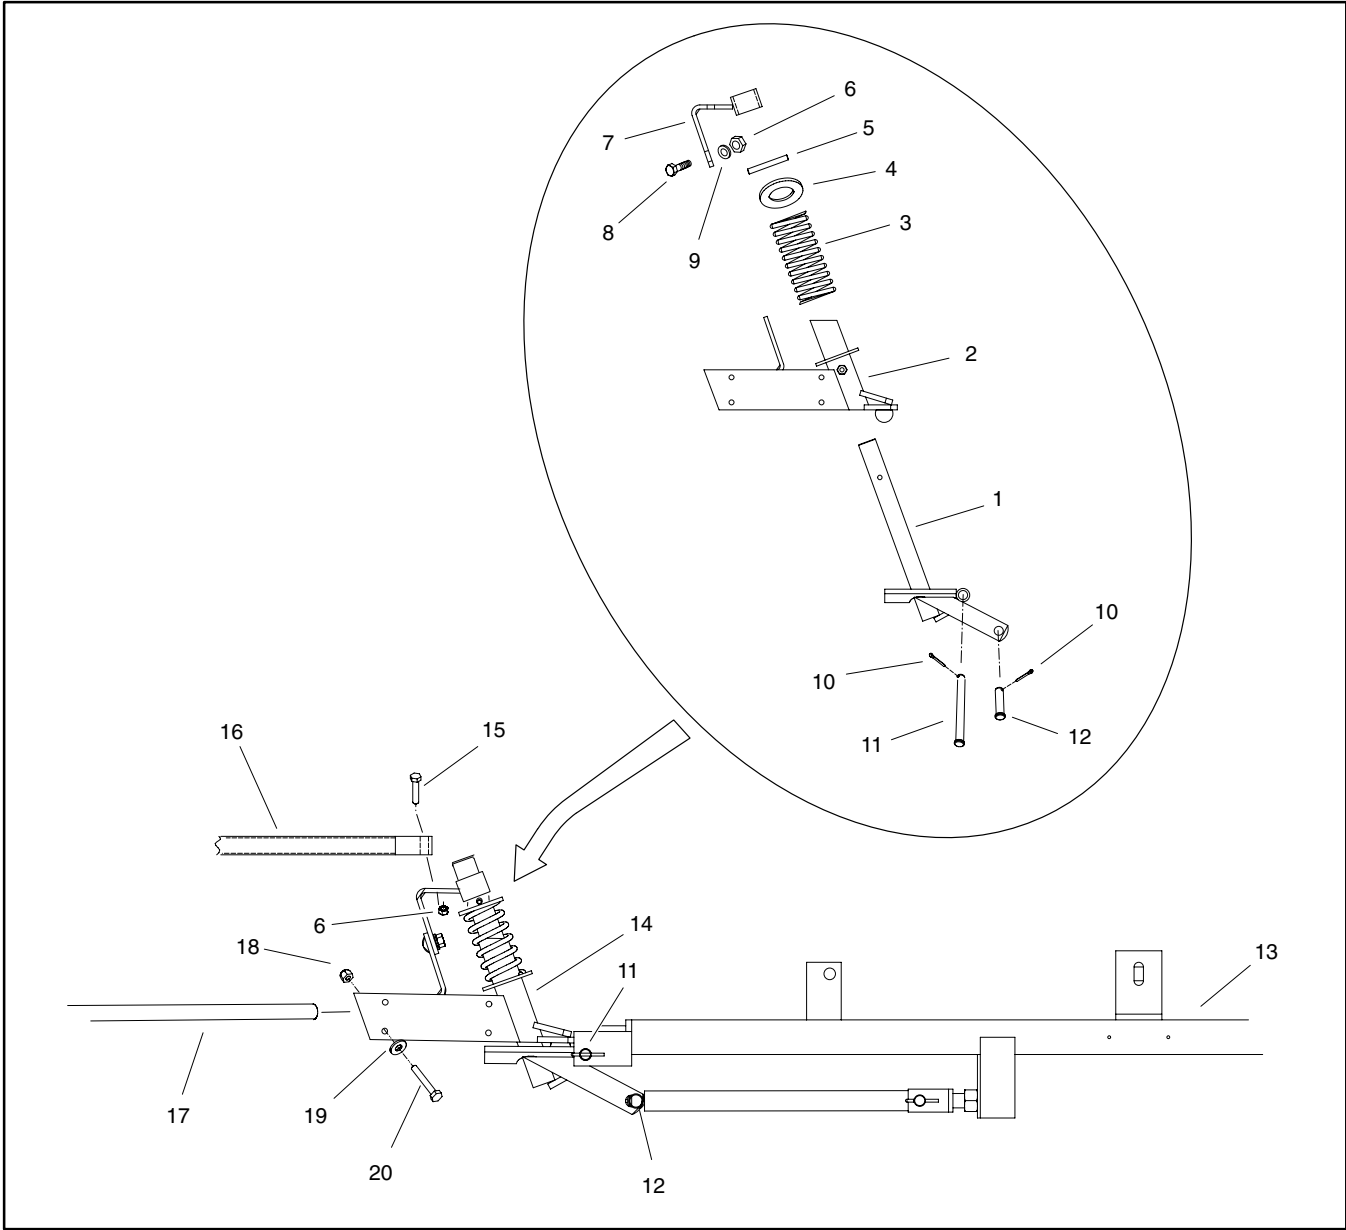

Figure 39
### Disassembly (Fig. 39)
5. Complete disassembly as required using Figures 39 and 40 as guides.
### Assembly (Fig. 39)
1. Assemble breakaway pivot using Figures 39 and 40 as guides.